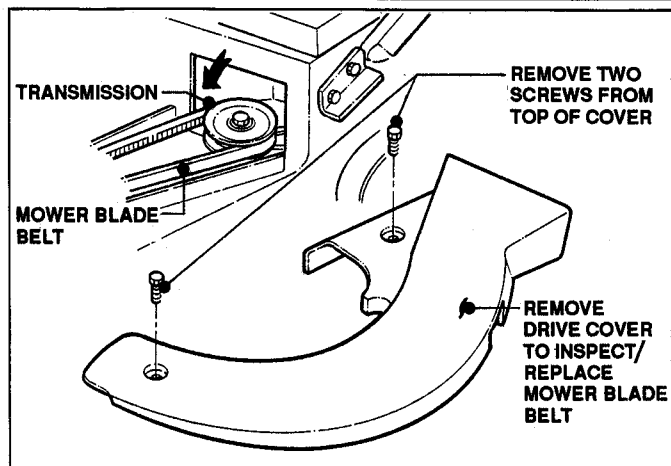

FIGURE 10
1. Remove DRIVE COVER by removing two screws from top of cover. See Figure 10.